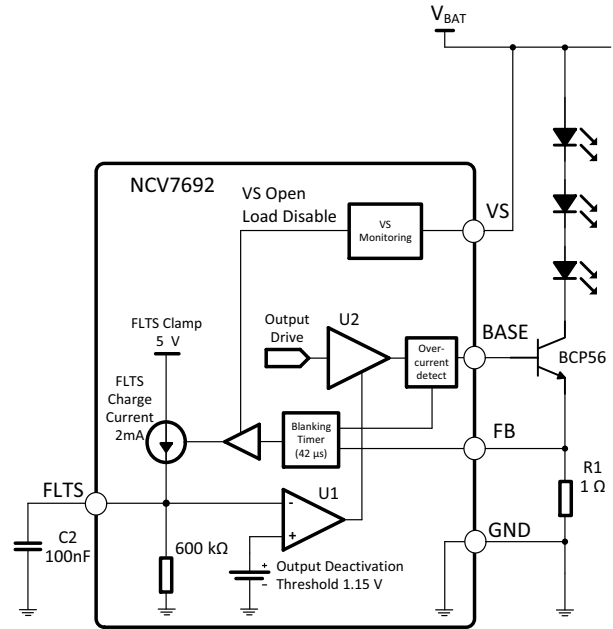

Figure 5. Open Load Detection Circuitry
The timing for open load detection is programmed using the FLTS pin. The NCV7692 device regulates a 152 mV reference point (Figure 5 on the feedback pin (FB)). When the voltage decreases (half of the FB Regulation Voltage) or the base current reaches the internal 25 mA (typ) limit for 42 μs the timer associated with the FLTS pin starts by charging the capacitor with a 2 mA current source. When the voltage on FLTS exceeds the output Deactivation Threshold (1.15 V (typ)), the BASE pin is pulled low and is held low by an internal pulldown resistor.